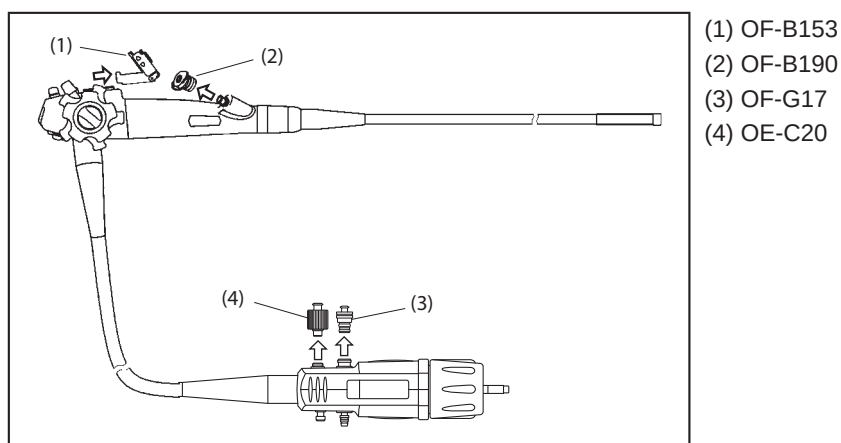

Figure 1.3.25
- 2) Detach the inlet seal (OF-B190), cleaning adapters (OE-C20, OF-B153, and OF-G17) from the endoscope. Open the cap of OF-B190. (see Figure 1.3.25, p57)
(see Figure 1.3.25, p57)